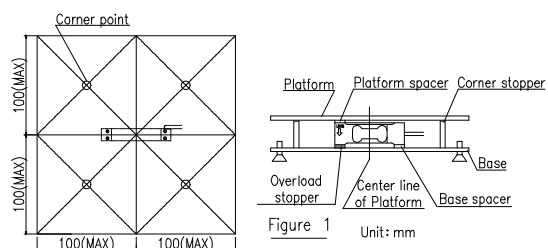

Figure 1 Unit: mm
- (6) Make sure that the attaching surface is clean and free from foreign matter. Tighten the bolts while using much care not to apply unnecessary force (torsion or lateral load) to the load cell.
- (7) For the allowable dimensions of the platform, see Figure 1. Also, when designing a platform, see the "3-2 OVERLOAD PRECAUTIONS".